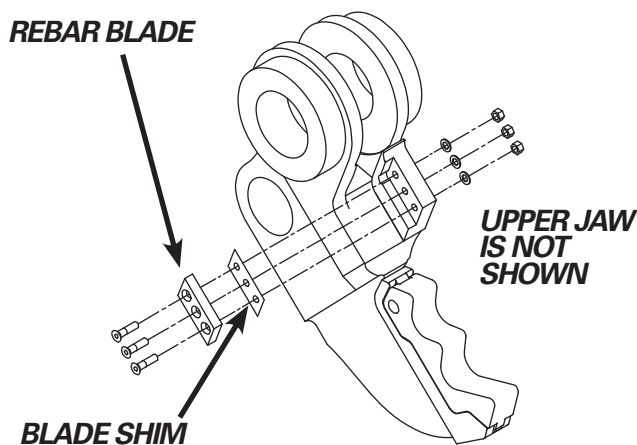

FIGURE 7-3
4. Reinstall the blade. The blade should be flipped end for end (see Figure 7-3) and reinstalled in the same blade seat. Torque the blade bolts according to the Dry Bolt Torque charts in this chapter.
3. To install the shims, loosen the blade bolts and slide the shim between the blade and the blade seat (see Figure 7-3). Tighten the blade bolts to the proper torque according to this manual.